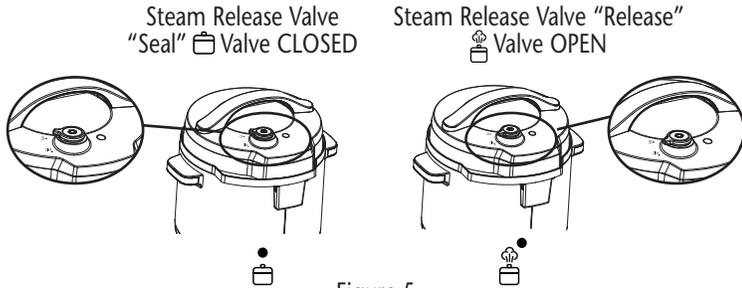

Figure 5
- A. Natural Pressure Release Method:** After cooking cycle is complete, let Cooker naturally release pressure through the Bobber Valve. Unit will gradually cool down on its own. Wait at least 10 minutes after cooking has completed, and then rotate the Steam Release Valve to the "Release"  position (see Figure 5). Do not place any part of your hand or body over the Steam Release Valve, as steam is very hot and can scald skin. The pressure has been released when steam is no longer escaping from the valve, the Bobber Valve has dropped completely, and the Pressure Lid opens freely with minimal force. This can take up to 10-20 minutes. Never force the Pressure Lid open.
- B. **Quick Pressure Release Method:** Using a kitchen utensil, push the tab on the Steam Release Valve to the “Release”  position (see Figure 5). Steam will release rapidly from the Steam Release Valve. Do not place any part of your hand or body on or over the Steam Release Valve, as steam is very hot and can scald skin.